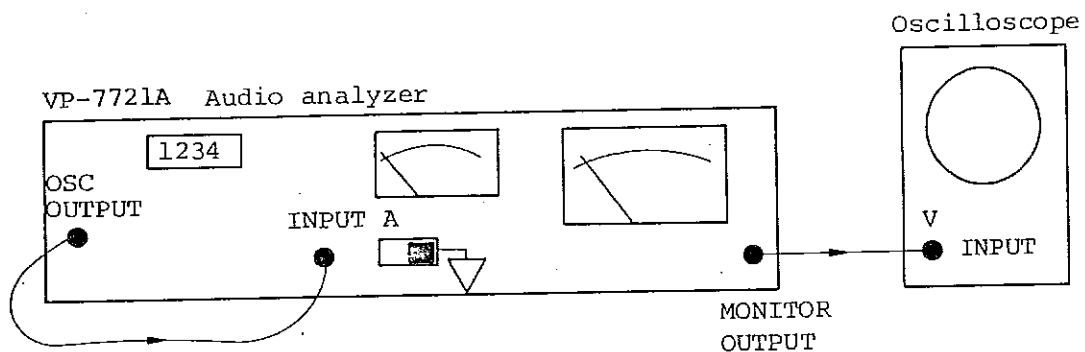

Fig. 4-1 Connection for checking VP-7721A
- 3) Connect the OSC OUTPUT connector to the INPUT A connector of the measurement section to place the analyzer in the self-diagnosis mode. (See Fig. 4-1.) A coaxial cable with BNC plugs is recommended. Set the slide switch (16) to the right for unfloating connection.
- 4) Connect an oscilloscope (1 MHz bandwidth is adequate), to the MONITOR OUTPUT connector (12) as shown in Fig. 4-1. Observing waveforms will help you understand the operation of the analyzer.
- 6) Press the LEVEL key of the MEASUREMENT keys (6) (the LED in the key will light) to select level measurement function.
- 15) Press the LEVEL key of the MEASUREMENT keys (6) with the LED in the key on. The analyzer is now set to measure voltage levels. (Because the LEVEL key was pressed in step 6) and remains there, this instrument provides the level measurement function with which you have been able to measure the oscillator output level with the measurement setup in Fig. 4-1.)
- 16) Use the RANGING key (14) to determine whether the indicator range is switched automatically or manually. The lamp of this key turns on or off alternately each time it is pressed. Turn off the RANGING key to select AUTO. One of the 16 meter range indicators (8) will light and indicates the range of the meter (9) to read the input level.
- 17) Keep the REF ADJ knob (10) depressed.
Because connection is made as shown in Fig. 4-1, output from the oscillator is not terminated with a 600-ohm load. Inserting a 600-ohm termination pad at the INPUT A connector causes the level meter to read the value displayed on the digital display in dB or dBm. Otherwise, the level meter indicates a value 6 dB higher than the value displayed on the digital display for both dB and dBm. That is, the unloaded output of the oscillator is measured.
- 34) When the S/N measurement function is enabled with the connection (Fig. 4-1) kept as is and the set state unchanged, the S/N of the analyzer itself will be indicated. The S/N in this case implies the degree of residual noise content.